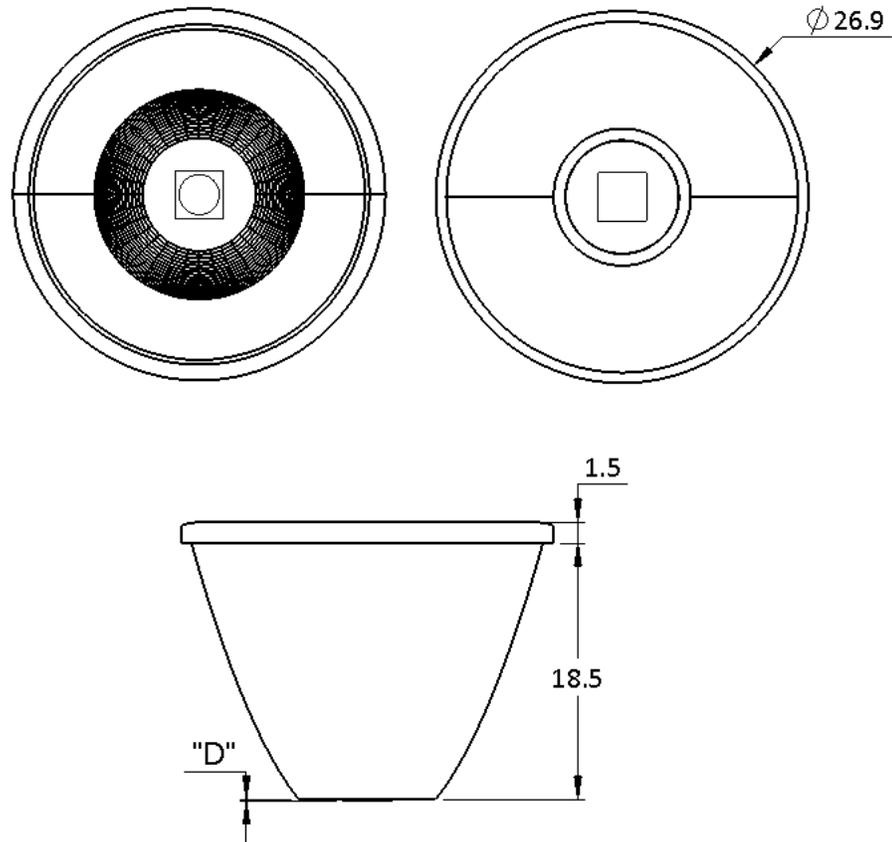

Figure 1. Front, rear and side views. Dimensions in mm.
- (2) To calculate the on-axis intensity (cd), multiply the on-axis value, above, of the lens (cd/lm) by the total flux (lm) of the LED used. See “Example Calculations” below. Luminous intensity depends on the flux binning and tolerances of the LEDs. Please refer to the LED datasheet for more details on flux binning.
- (3) FWHM is the full angle where the beam intensity is half the on-axis peak intensity.
- (4) Field angle is the full angle where the beam intensity is 10% of the on-axis peak intensity.
- (5) See Figure 1, showing part dimensions.